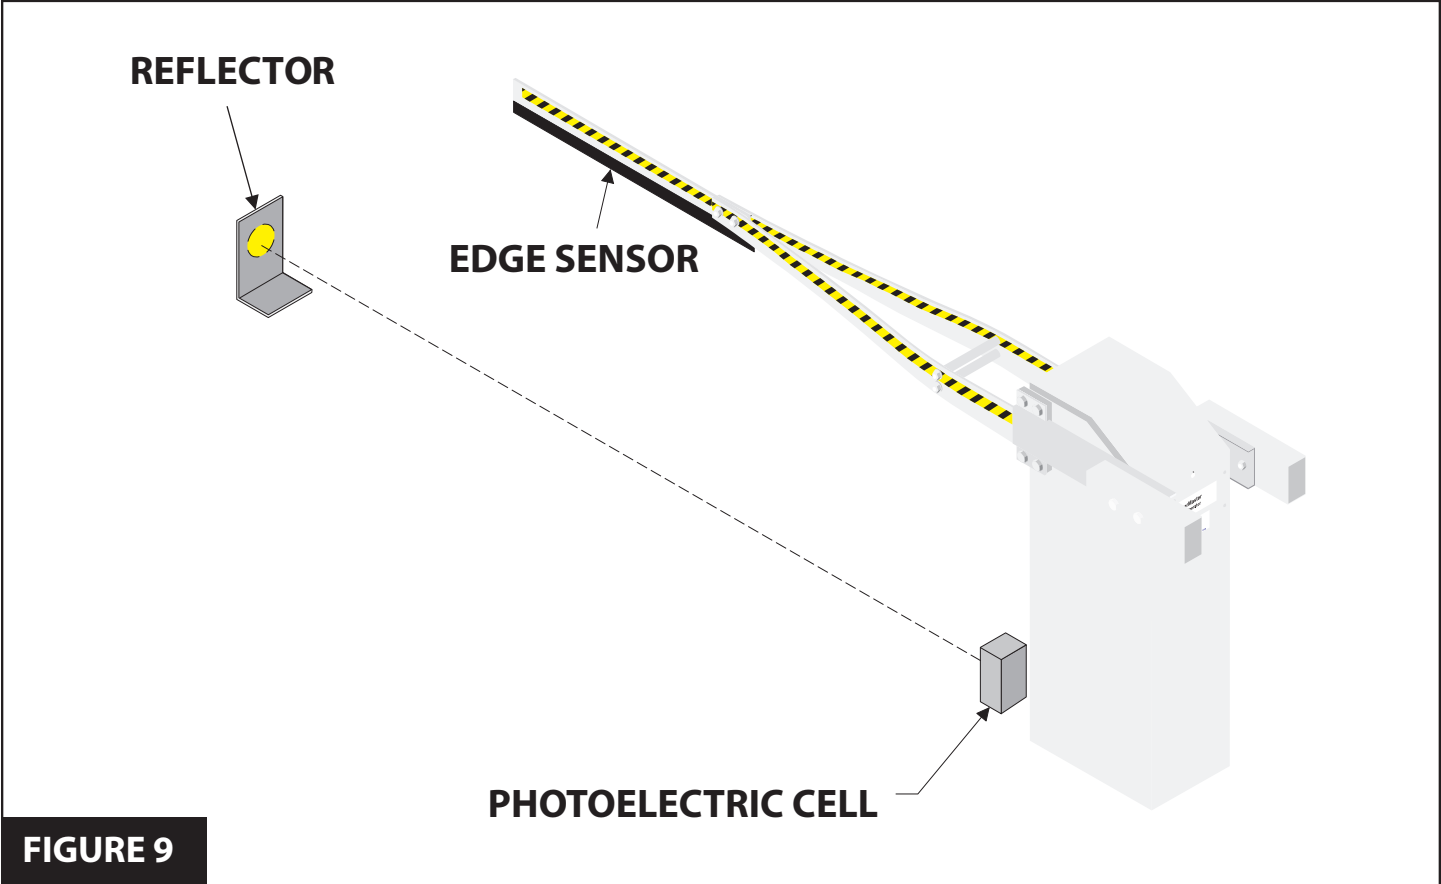

FIGURE 9
- 1. Install edge sensor or photoelectric eye system as shown in **Figure 9**. Photocells should be installed at least 10" above the ground.